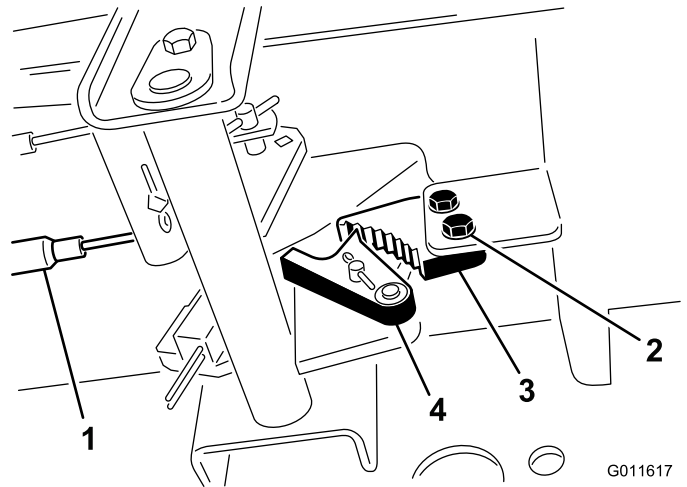

Figure 73
1. Loosen the 2 screws securing the parking-brake pawl to the frame (Figure 73).
2. Press the parking-brake pedal forward until the brake detent completely engages on the brake pawl (Figure 73).